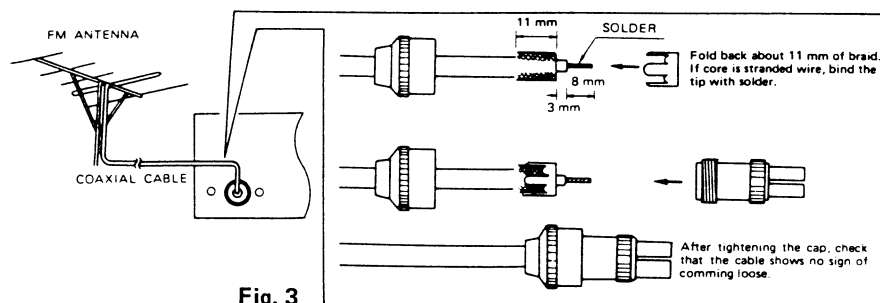

Fig. 3
• FM OUTDOOR ANTENNA CONNECTION (Fig. 3)
When connecting the coaxial cable to the antenna terminal using the DIN connector, please refer to the procedures in Fig. 3.